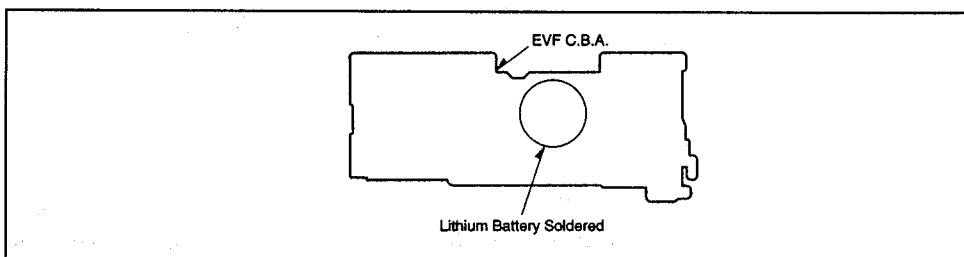

Fig.B1
2. Unsolder the Lithium battery "VLF2330/1HF" and then replace the new one. (See Fig.B1)